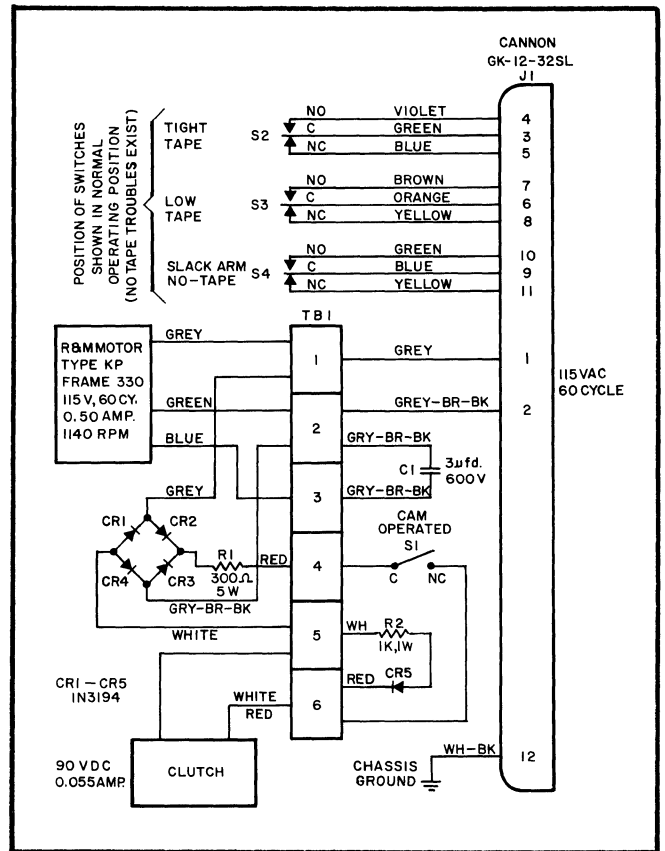

Figure 2-4. Model P Tape Panel, Wiring Diagram
2-19. MODEL P TAPE PANEL (Figure 2-4). The Model P Tape Panel must be interconnected to the input power control panel of the data generating system to control the
- (b) Remove the 12 pin mating plug from connector J1 (Figure 2-4).
- (c) Connect the conductors of the cable, provided in step (a), to the pins of the plug in accordance with Figure 2-4.